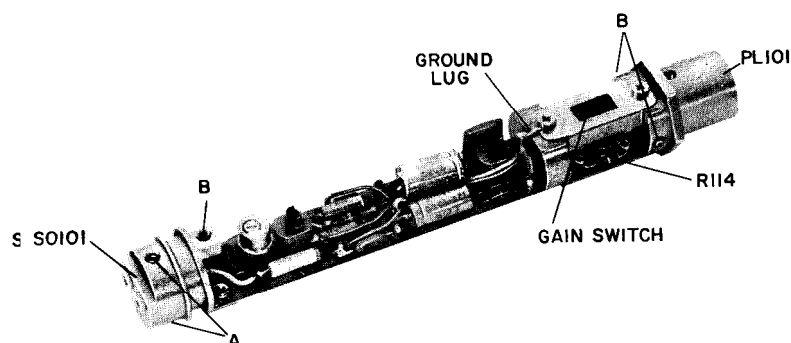

Figure 7-3. Interior view of the preamplifier.
- a. Turn in the two screws (A, Figure 7-3), using the hexagonal wrench provided.
switch (see Figure 7-3) to the desired gain, either X1 or X10, as engraved on the switch.
tube from the preamplifier (refer to paragraph 7.4.2). Then remove the screw holding the ground lug at the end of the gain switch (see Figure 7-3). Bend the connecting lead so that the lug can not contact the shell or any part of the circuit. Then replace the screw. Also, be sure that the circuit is not grounded to the shell by the input or output connector. If cable connections are used, a two-conductor shielded cable for the input and a three-conductor shielded cable for the output are required. The shields must connect to the shell. The low side of the preamplifier circuit connects to terminal #1 of the three-terminal output plug.
Attach the microphone to the preamplifier as described in paragraph 7.3.1. Connect the preamplifier to its power source and to the measuring instrument (which may also be the power source; refer to paragraphs 7.2.2 through 7.2.5). Slide the gain switch (see Figure 7-3) to the desired gain, X1 or X10, as engraved on the switch. When the gain is X10, subtract 20 dB from the decibel reading of the measuring instrument to obtain the noise level at the microphone.
Using the hexagonal wrench provided, screw in the three shouldered screws (B, Figure 7-3) until the cylindrical tube can be removed from the preamplifier. Figures 7-3 and 7-10 show the locations of the components.